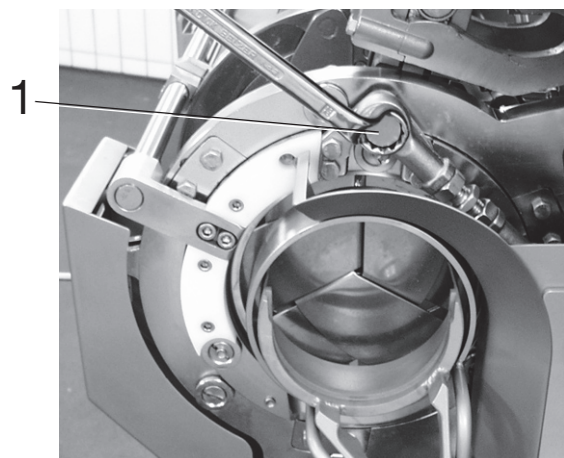

Fig. 7-24 1 Tightening the separator drive screw
- Tighten the screw on the separator drive (1, Fig. 7-24) (wrench size 22).